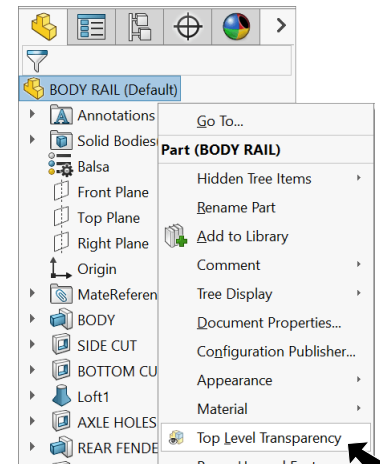

Fig. 18
- Step 2. Change Transparency to view Axle Hole, Fig. 18. To change transparency, right click **BODY RAIL** at top of Feature Manager and click **Top Level Transparency** from menu.